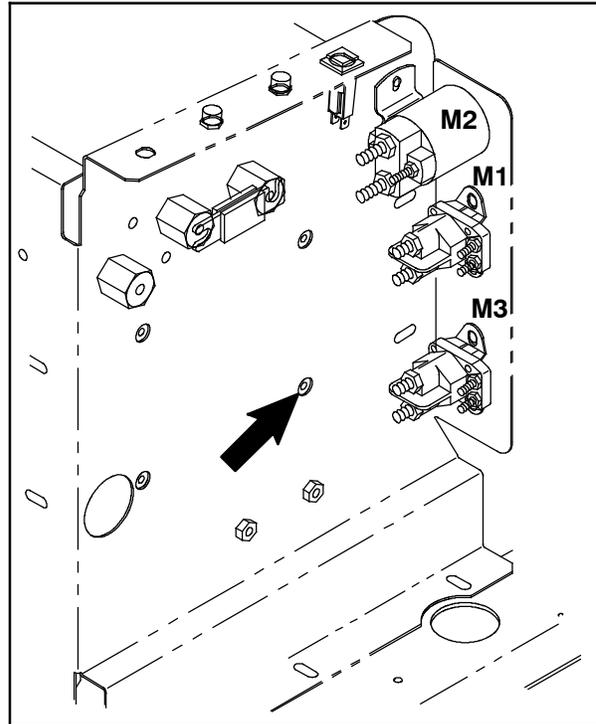

FIG. 4
- Use one M5 pan screw (7), one flat washer (9), and one M5 hex nut (10) to loosely install the new controller (6) onto the rear lensil electrical panel. (Fig. 4/ Fig. 5/ Fig. 6)